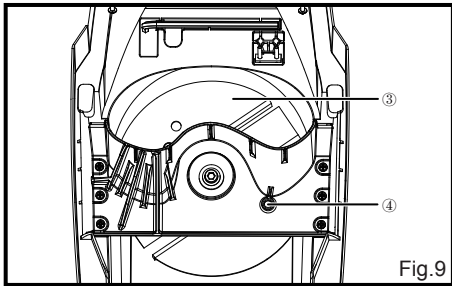

Fig.9
## Reversing, Sharpening & Replacing the Blade (See Figs. 9&10)
- Use a screwdriver (not provided) to block the blade plate ( ③ ). First, slot the screwdriver into the access hole ( ④ ). Then carefully turn the blade plate until one of the two blocking apertures appears and aligns with the access hole. Block the blade plate by slotting the screwdriver right through it (Fig. 9).